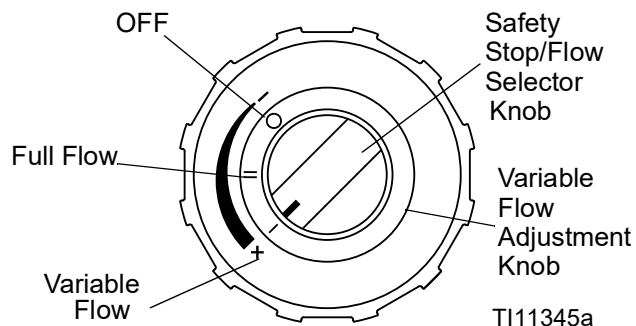

FIG. 25
To spray a reduced flow pattern, push in and turn flow selector knob to variable flow position. See FIG. 25.
To return to a full flow pattern, push in and turn flow selector knob to full flow position. See FIG. 25.
1. Turn air valve (W) OFF.
2. Turn flow selector knob to variable flow position. See FIG. 25.
NOTE: The variable flow adjustment knob cannot be adjusted when the flow selector knob is in the safety stop position. See FIG. 25.
4. Turn air valve ON, and open fluid valves. Verify that flow selector knob is set to the variable flow position. See FIG. 25.